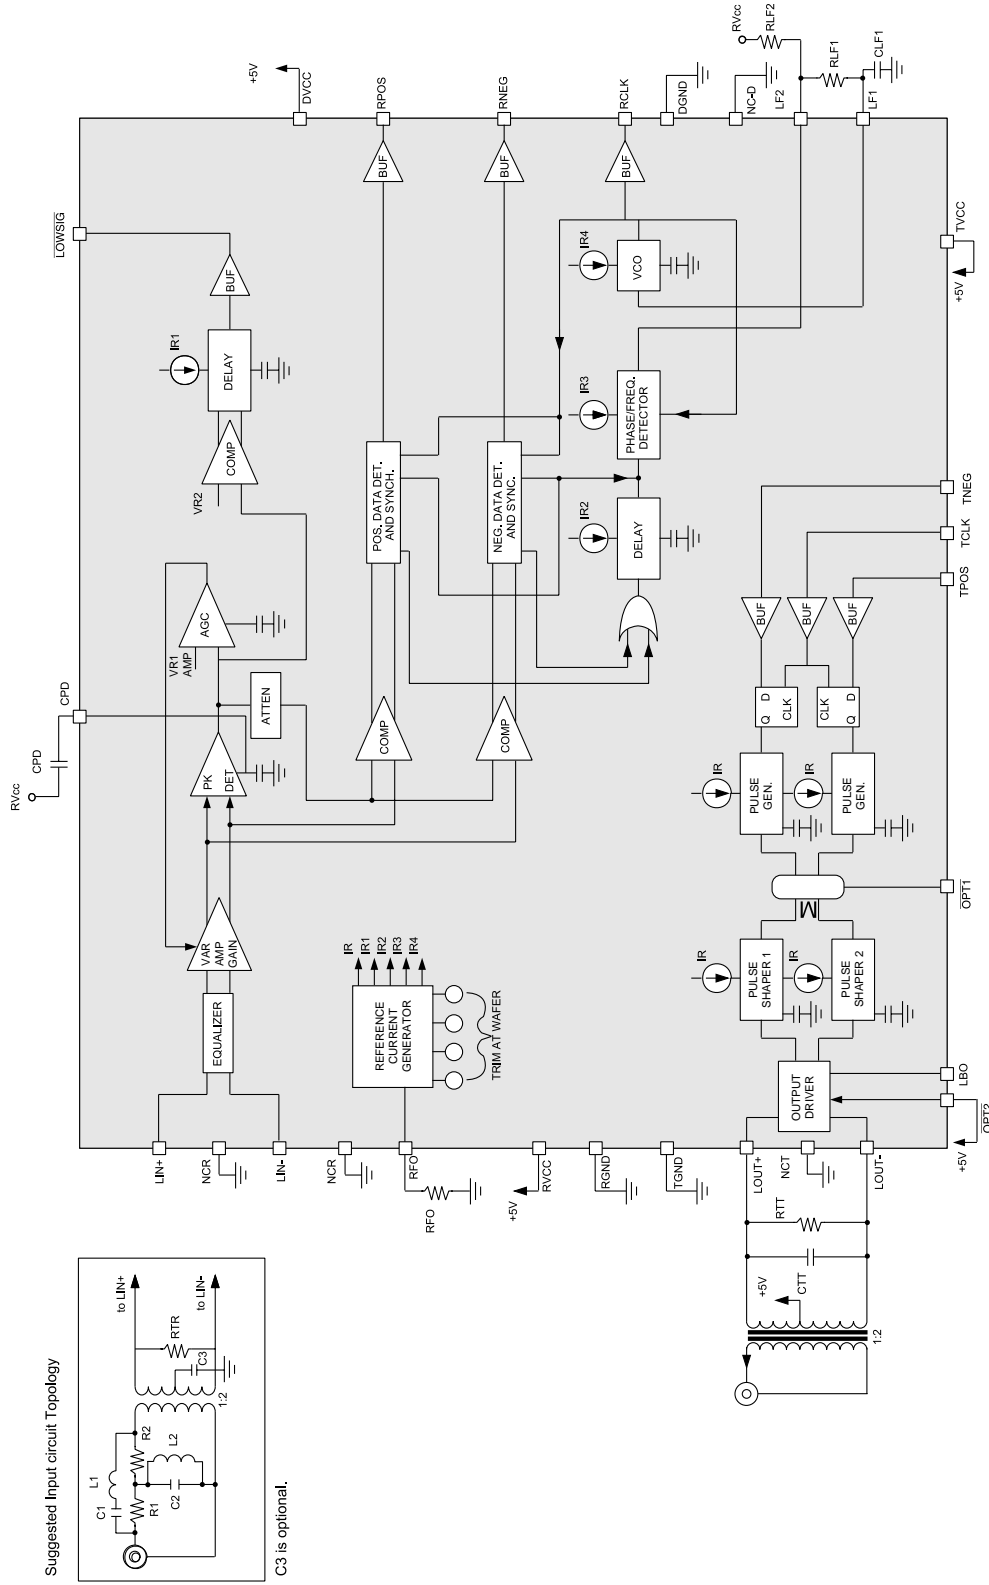

FIGURE 1: Functional Diagram
The AMI signal first enters a fixed equalizer, which is designed to overcome the intersymbol interference caused by long cable lengths and crosstalk. This fixed equalizer is optimized for DS3 application and its effect should be compensated by an external filter circuit similar to Figure 1, for all square shaped signals such as DS3-high or 34 Mbit/s E3. For all new designs, the addition of the filter for DS3 and STS-1 as well as E3 rate allows the circuit to work with sharp pulses such as DS3-high. The signal is then input to a variable gain differential amplifier whose output is maintained at a constant voltage level regardless of the input voltage level. The gain of this amplifier is adjusted by detecting the peak of the signal and comparing it to a fixed reference.
1. The input signal is transformer coupled as shown in Figure 1.